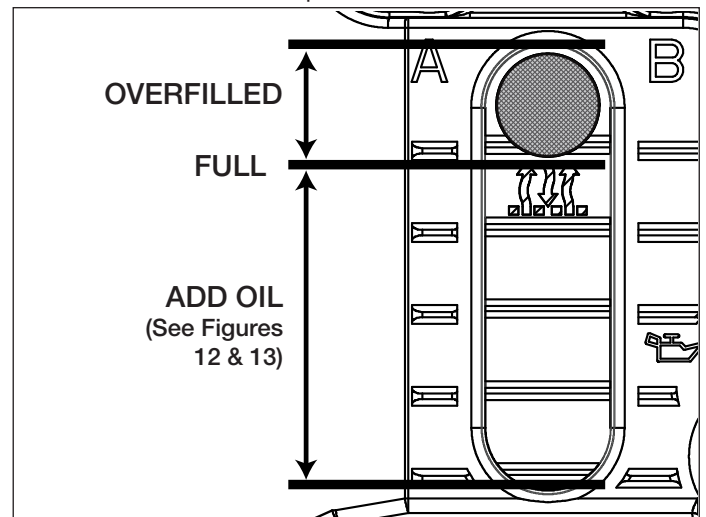

Figure 11, Oil Level Indicator
4. Check the oil level indicator. Verify that the oil level is up to the full mark. Refer to Figure 11.
11. Check the oil level indicator. Verify that the oil level is up to the FULL mark and that the reservoir is not overfilled. Refer to Figure 11.